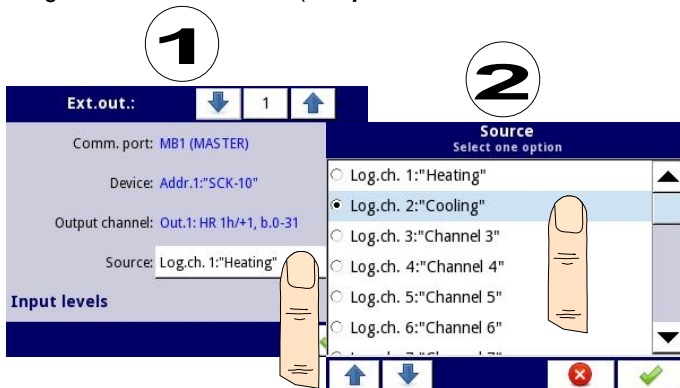

Fig. 7.82. Sample selection of **Source** for External output
- **Source** - after pressing the button next to **Source** label a list appears of Logical channels where the selected Logical channel will be data source for External output (see Fig. 7.82),